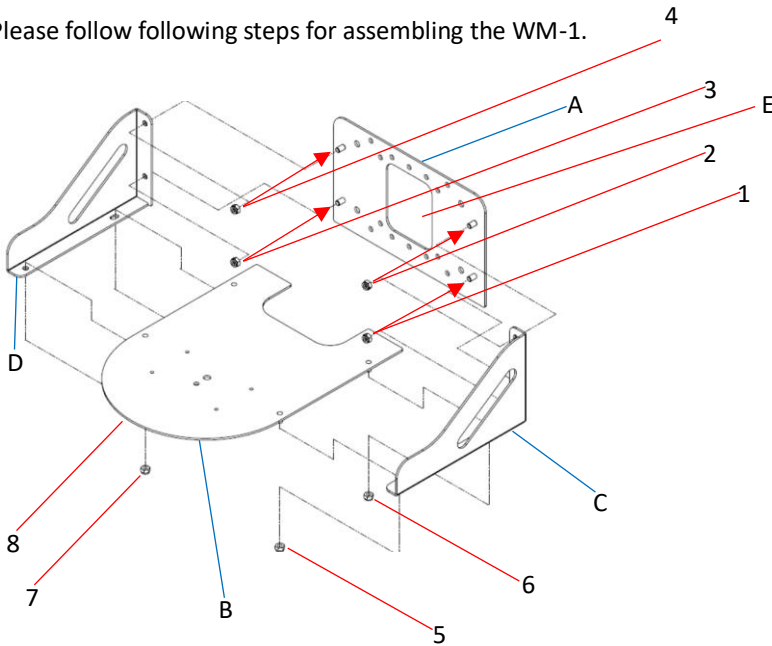

Figure 1. WM-1 Assembly
Step 5. After the PTC-150 is mounted, connect cables through the rectangular hole on the bracket A as shown as Figure 1. After that, the whole installation procedure of the WM-1 is completed.